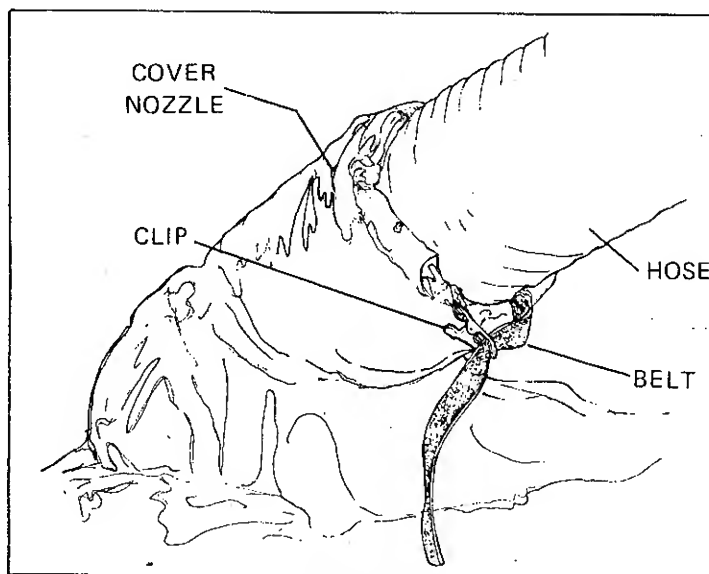

FIGURE 22
12. Insert hose in cover nozzle and tighten cover nozzle around hose with belt (Figure 22).